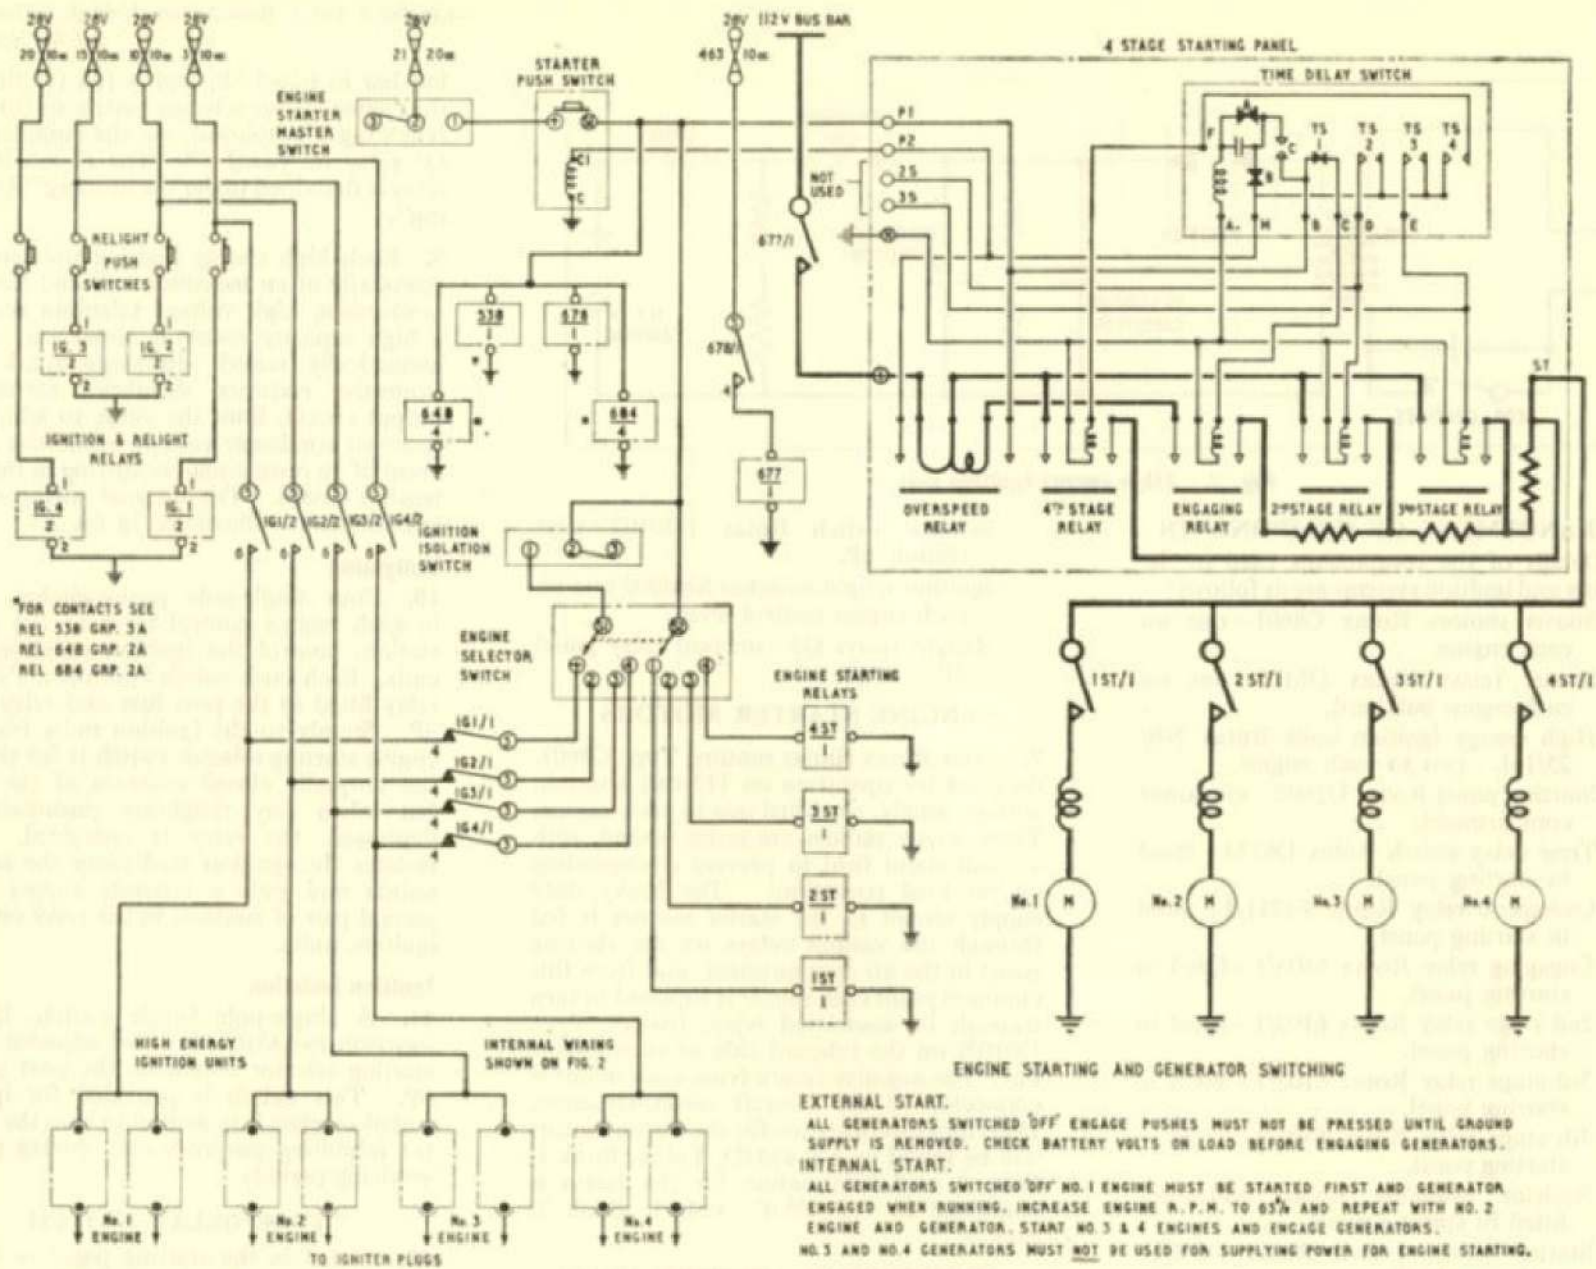

Fig. 3. Engine starting and ignition
12. Fitted in the starting panel in the aft power compartment is a time delay switch, Type D8134. This switch automatically controls the time sequence for the four stage starting. A theoretical circuit diagram of the switch is shown in fig. 3. Contacts A, B,
14. Referring now to fig. 3, it will be seen that when the engine starting push-switch is depressed, a 28-volt supply is fed from fuse 21, via relay contacts IGI/1 to the No. 1 engine ignition units. The No. 1 engine starting relay IST will also be energized and relay contacts IST/1 will close to place the No. 1 engine motor circuit at readiness for starting. At the same time, the 28-volt d.c. supply will be connected to energize the coil of relay 678. Closing of relay contacts 678/1 will connect a supply from fuse 463 to energize the coil of the heavy duty relay 677. Closing of relay contacts 677/1 will connect a supply from the 112-volt d.c. bus-bar to the positive terminal of the starting panel.